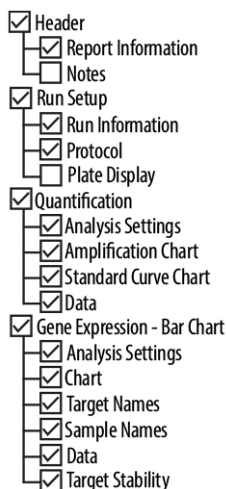

Figure 14: Report dialog
5. Ensure that at least the following content is selected for report generation in the upper left part of the Report dialog (see figure 14):